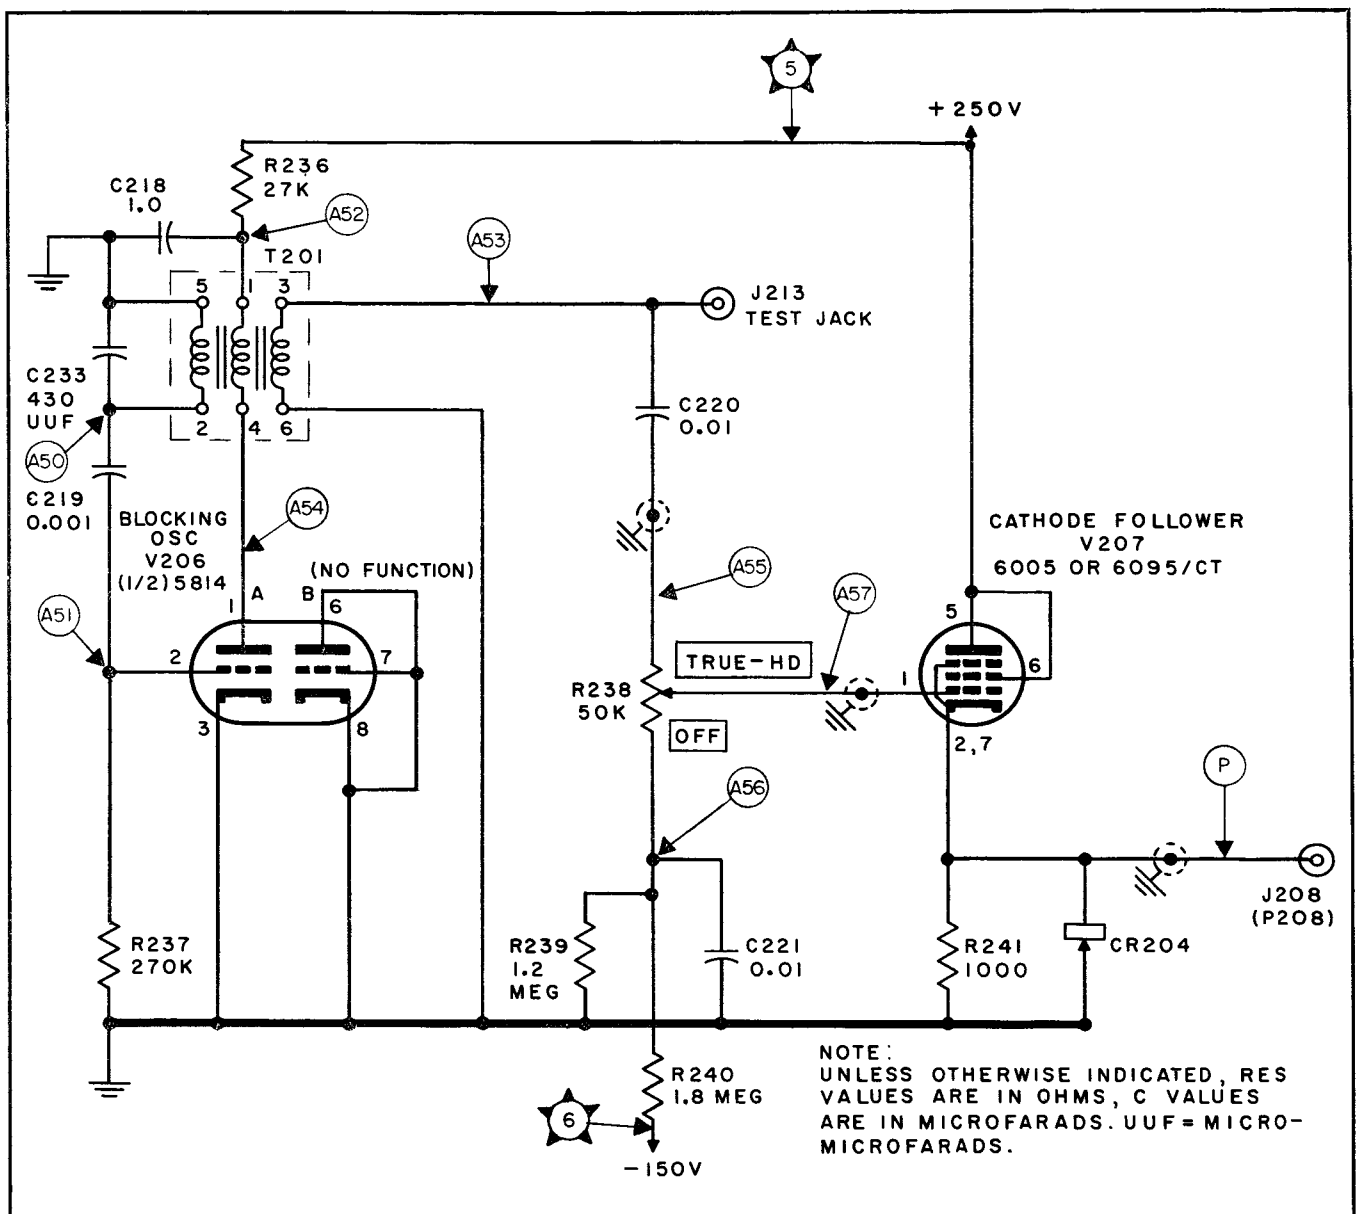

Figure 4-9. Azimuth Indicator Partial Schematic, Blocking Oscillator and Cathode Follower
- d. Blocking Oscillator and Cathode Follower (Figure 4-9).
4-34. BLOCKING OSCILLATOR AND CATHODE FOLLOWER. (Figure 4-9.)